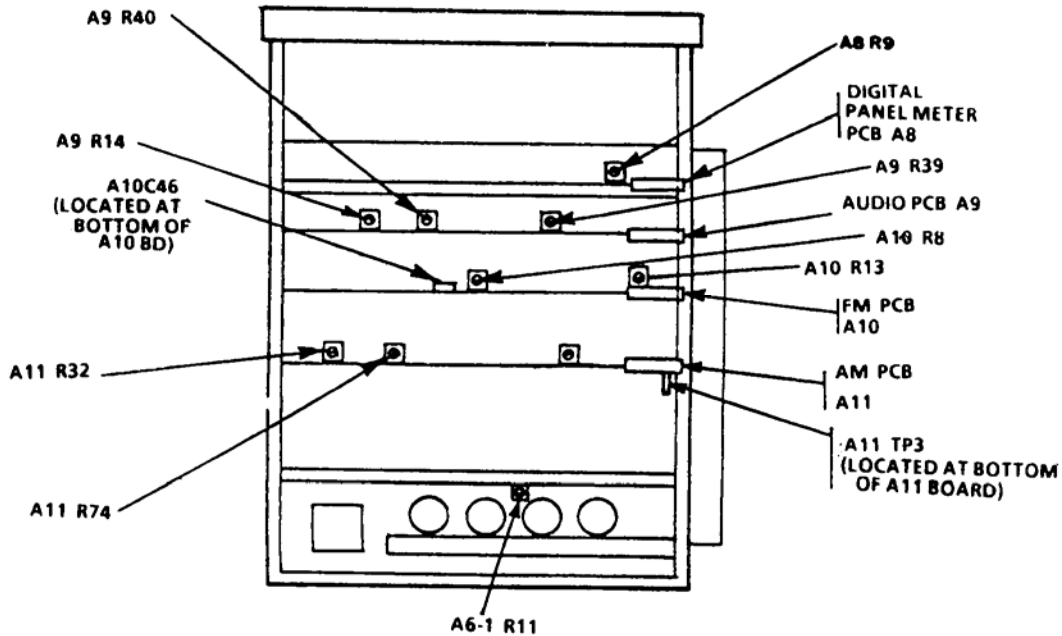

Figure 2. Test instrument top view - adjustment location.
- (1) Adjust A8R9 (figure 2) until TI indication is same as multimeter indication (R).
- (2) Adjust A9R14 (figure 2) for same TI display recorded in **a** (5) above (R).
- (3) Adjust A9R39 (figure 2) for a 0.0000 indication on multimeter (R).
- (4) Adjust A9R40 (figure 2) for a 0.0000 indication on multimeter (R).
(1) Repeat a (3) through (6) above.
(2) Set synthesized signal generator FM to on and adjust synthesized signal generator controls for a 10-kHz FM Deviation indication on the measuring receiver.
(3) Adjust A10R8 (figure 2) for a TI indication of 10 kHz + (residual FM recorded in a (6) above) (R).
(1) Adjust A11R32 (figure 2) for a TI display indication of 10.00 (R).
(2) Adjust measuring receiver controls to measure 100% AM modulation.
(3) Adjust A11R74 (figure 2) until TI display and measuring receiver display agree (R).